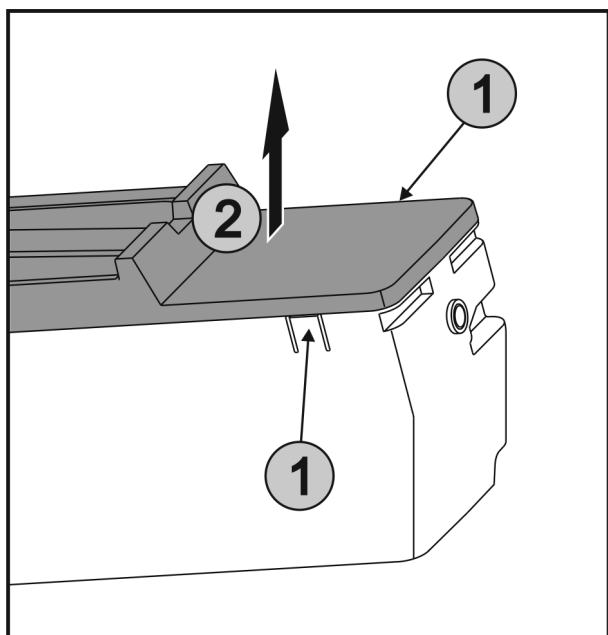

Fig. 39
- ▶ Press the lugs Fig. 39 (1) on both sides of the EasyTwist-Ice simultaneously and take off the lid Fig. 39 (2) to the top.